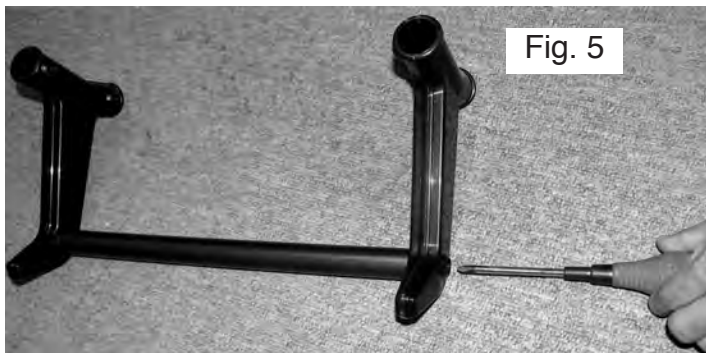

Fig. 5
- Take one of the two caddy hooks and insert the rod support into the recessed hole in the hook. Screw one Phillips head machine screw through the caddy hook into the rod support. Snug up but do not fully tighten. Repeat for the other caddy hook as shown in Fig 5.